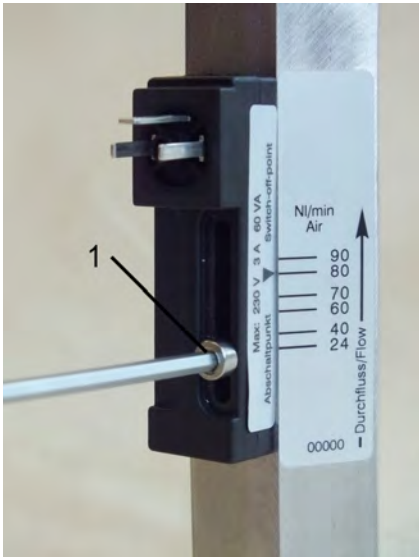

Fig. 31: Loosen set screw
1. Loosen the set screw of the switch contact (Fig. 31/1) using a Hex screwdriver.
3. Re-tighten the set screw of the switch contact (Fig. 31/1) using a Hex screwdriver. When doing so, observe the correct tightening torque of the screw.